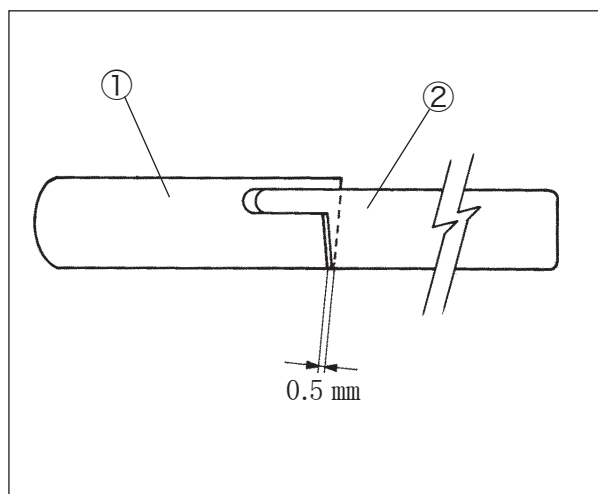

Fig. 5-20
For the standard position of the upper knife ②, engage between the upper knife ② and lower knife ① to 0.5 mm when the upper knife ② is at the extreme left. (Fig. 5-20)
Changing the position of the lower knife ①, the engagement of the upper knife ② is readjusted to 0.5 mm. (Fig. 5-20)